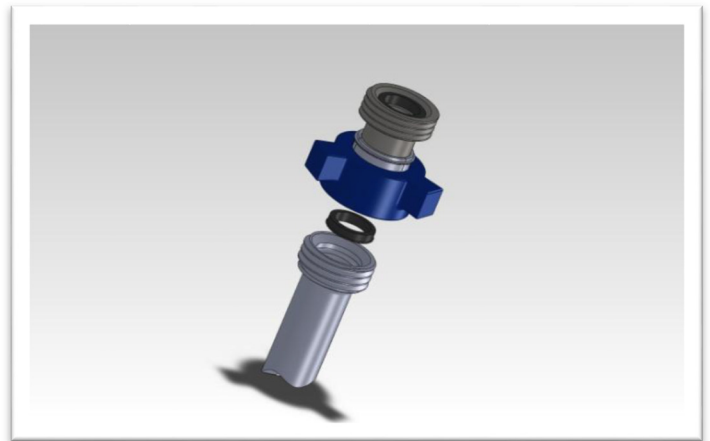

Figure 6
- 2) Place the elastomer seal and the Safety Plug / nut assembly onto the figure 1502 female sub as shown in figure 6.